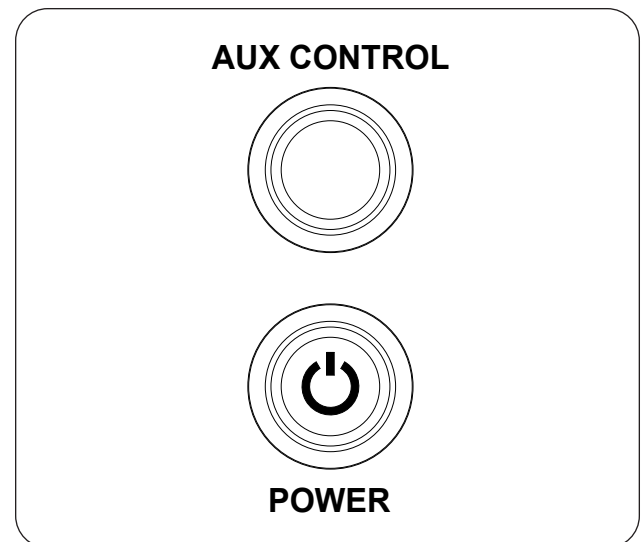

Fig. 35-1 Manual Operation:
1. Locate the **POWER** button on the control panel, and push it (see Fig. 35-1). The light will illuminate indicating the system is on and ready.
2. Locate the **AUX CONTROL** button on the control panel, and push it (see Fig. 35-1). The light will illuminate and the burner ignition sequence will begin.
**WARNING: If the pilot fails to light within 15 seconds, or if the burner fails to light within 15 seconds of pilot lighting, push the POWER button on the control panel to turn off. Allow five (5) minutes for any gas in the unit to dissipate, then repeat steps 1-2 above. IF YOU SMELL GAS, SEE STEP C ABOVE.**
**To shut down the burner (system will remain on)**, push the **AUX CONTROL** button (see Fig. 35-1).
**To shut down the burner and system (total shutdown)**, push the **POWER** button (see Fig. 35-1).